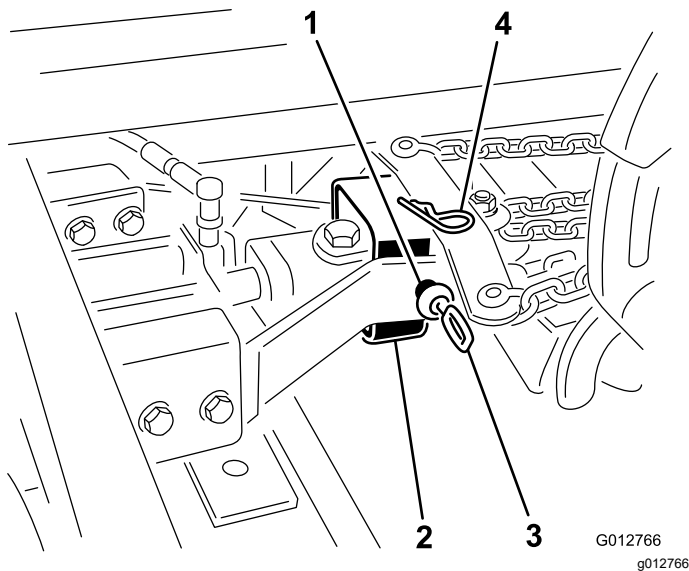

Figure 22
4. Slide the lockup pin through the holes in the lockup bracket and secure it with a hairpin (Figure 22).